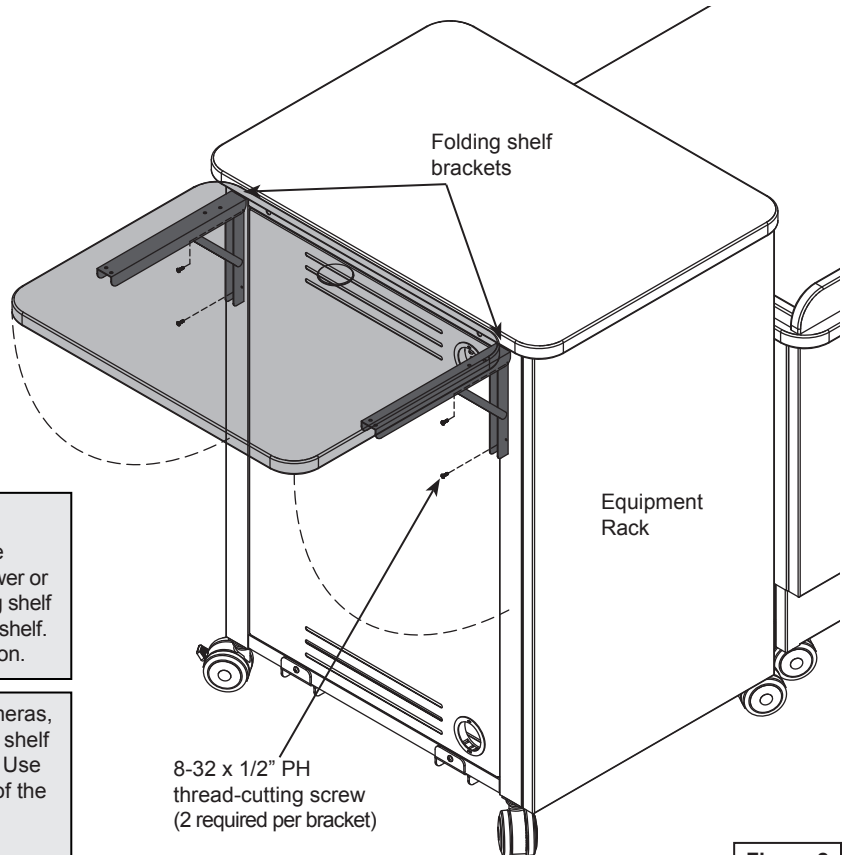

Figure 2
3. Align and attach each bracket to the side of the lectern with (2) 8-32 x 3/8" PHM screws and tighten securely. **Figure 2.**